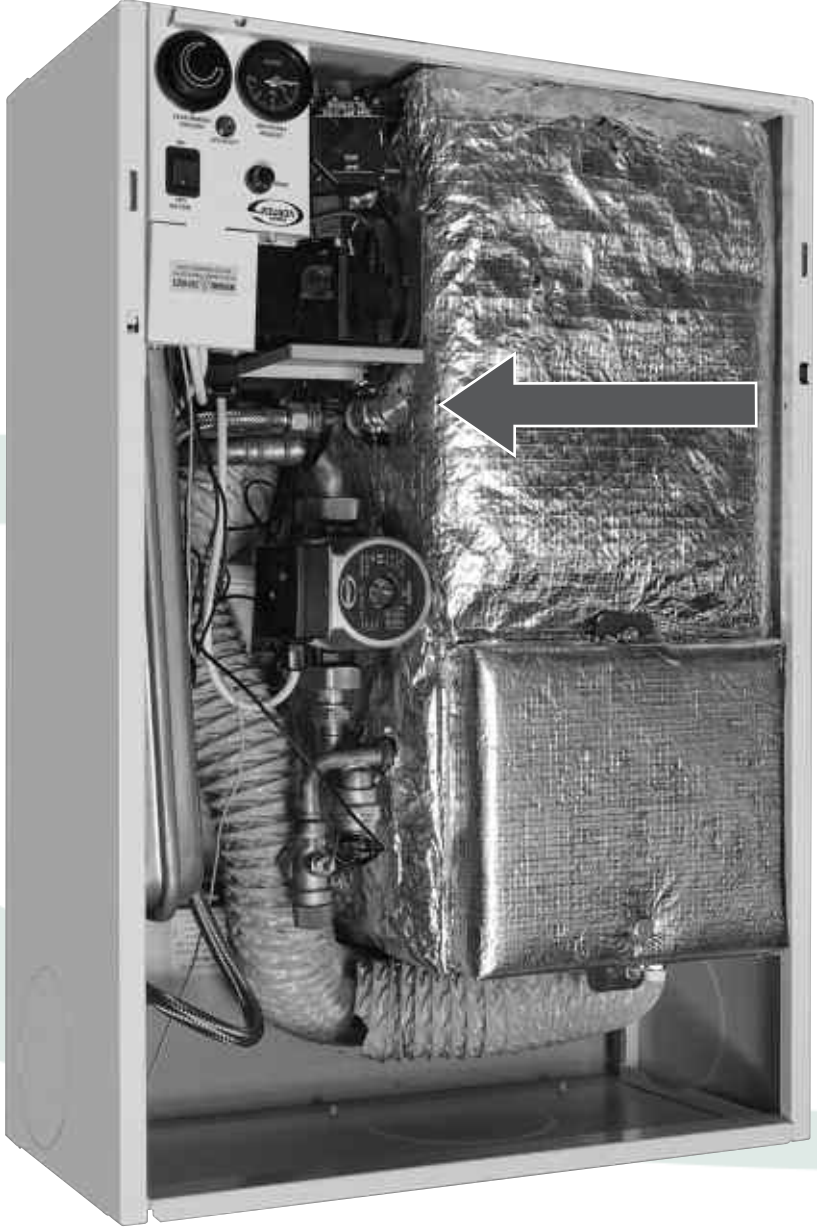

Figure 4: VORTEX Eco Wall Hung boiler (showing water fill point valve with cap)
2. Check that the fill point valve is closed as shown by the large arrow in Figure 4.
4. Ensure that the flexible filling loop is supplied with the boiler (see Figure 4) is connected and that the double check shut off valve connecting it to the water supply is closed. (A valve is open when the operating lever is in line with the valve, and closed when it is at right angles to it).
5. Open the fill point valve shown in Figure 4.
12. Refit the cap to the fill point valve shown by the large arrow in Figure 4.